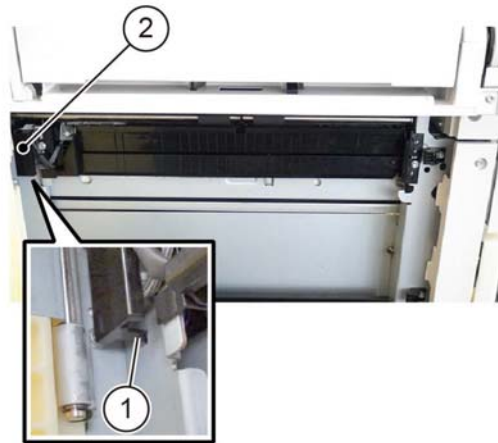

Figure 1 ESD cover removal
4. Remove the ESD cover, Figure 1:
- a. Disengage the hook (1).
- b. Remove the ESD cover (2).